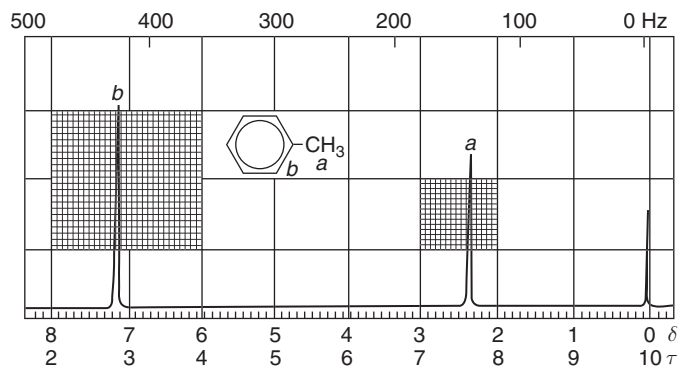

Figure 41 NMR spectrum of c1ccccc1C.
5. **Toluene:** The compound has eight protons (Figure 41). The protons of type a are methyl protons which are magnetically equivalent. The signal for these protons appear at δ 2.34. The protons of type b are aromatic and are not equivalent. These protons are of three kinds, two ortho, two meta and one para with respect to the substituent methyl group. Despite being non-equivalent, all these protons give rise to only one singlet signal at δ 8.18. This implies that the methyl group has no influence magnetically on the aromatic protons. The relative areas under two signals of the spectrum are in the ratio 3:5.